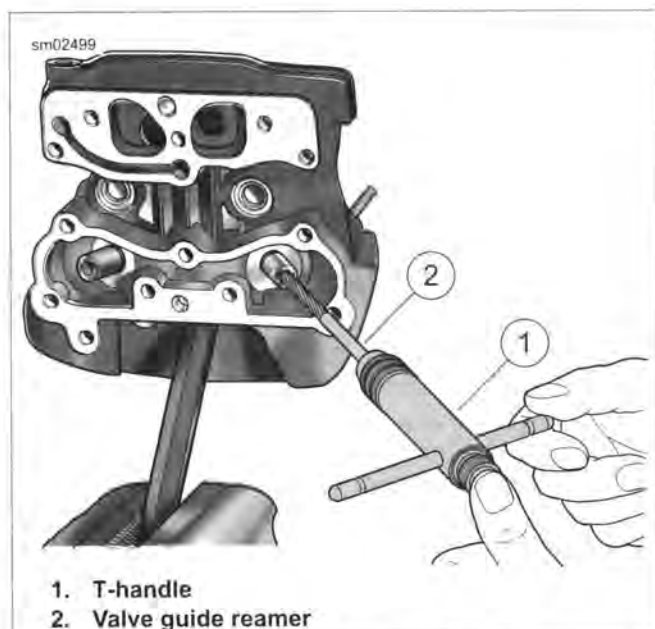

Figure 3-40. Reaming Valve Guide Bore
5. See Figure 3-40. Ream the guide.
- a. Install REAMER T-HANDLE (Part No. HD-39847) (1) on VALVE GUIDE REAMER (Part No. B-45523) (2).